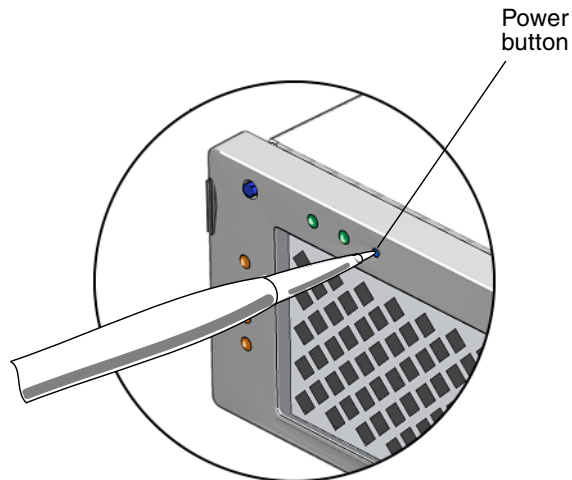

FIGURE 6-9 Powering On the Server
- Use the tip of a pen to press the power button on the bezel (FIGURE 6-9).